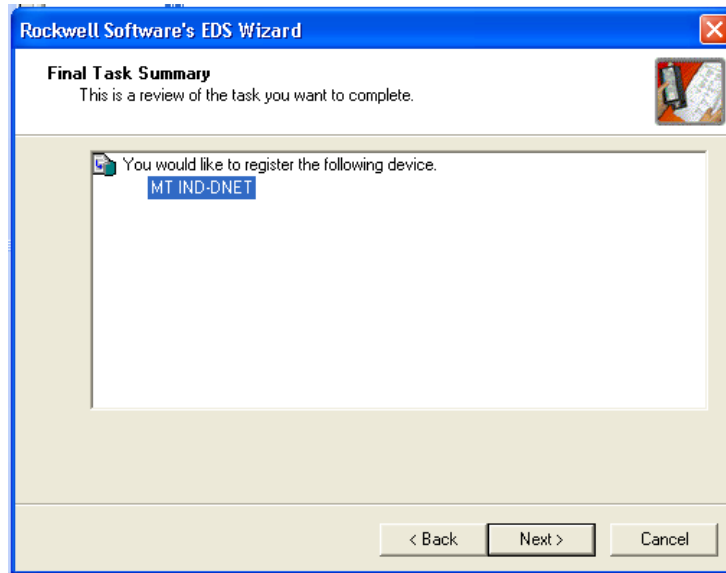

Figure 3-11: Final Task Summary Screen
10. The Final Task Summary screen (Figure 3-11) will appear. Click **Next**.